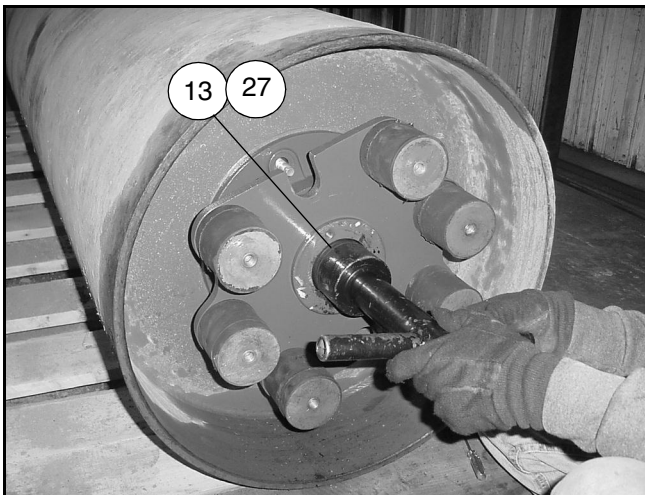

Figure 3
4. Remove the shaft nut (13, using part number 1023106 socket), the shaft washer, and the tongued washer (27), Figure 3.